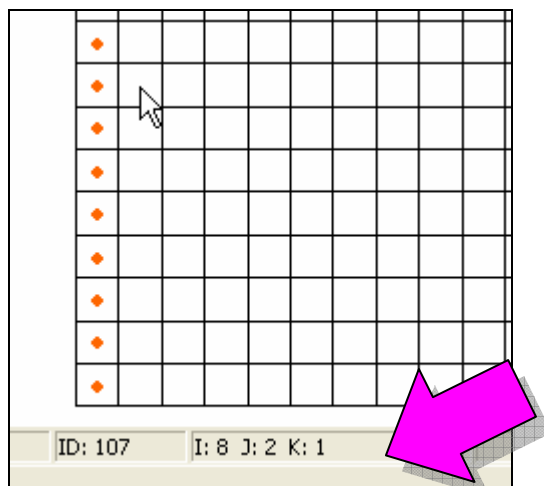

Figure 10-1 IJK indices of cell under cursor.
2. Notice that as you move the cursor across the grid, the *ijk* indices of the cell beneath the cursor are displayed in the *Edit Window* at the bottom of the screen, as shown in Figure 10-1.